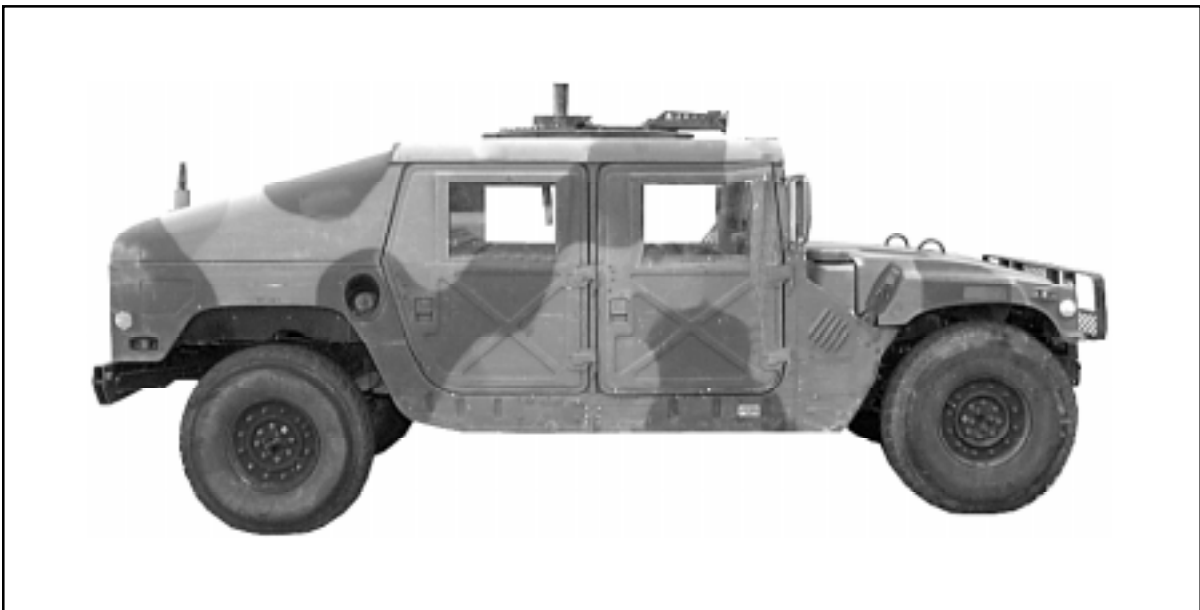

Figure 5-1. M1025/ M1121 Armament/ Tow Carrier HMMWV
- a.** The M1025 Armament Carrier (Figure 5-1). It weighs 5,960 pounds. It is 180 inches long, 85 inches wide and is 74 inches high.